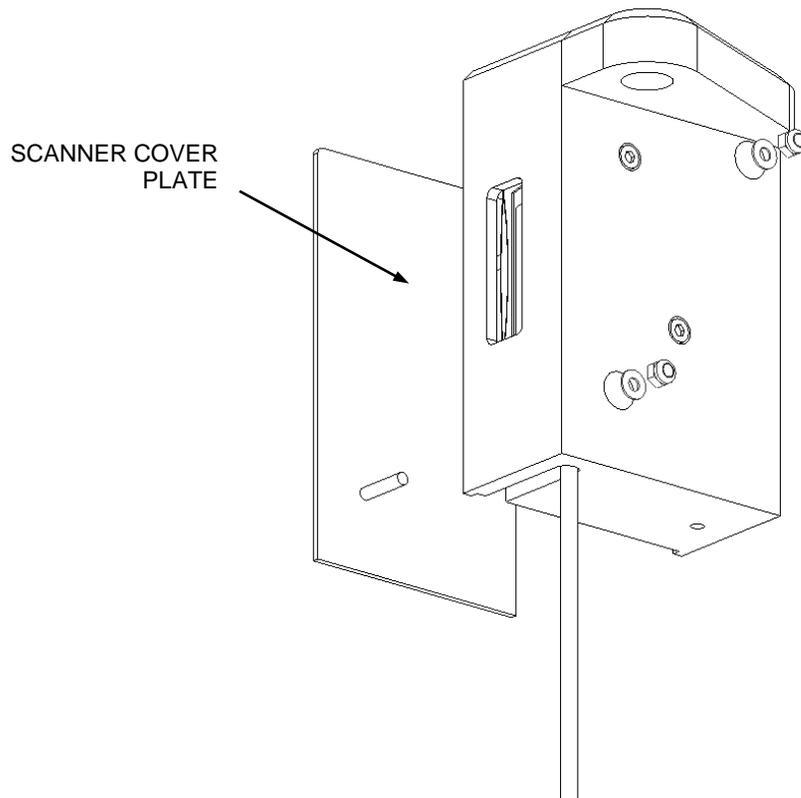

Figure 11-11: Removing the Scanner Cover Plate
7. Remove the scanner Cover Plate by removing the two M3 Nyloc Nuts (Figure 11-11).